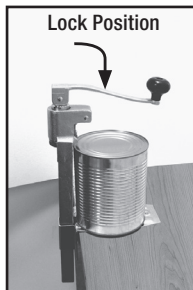
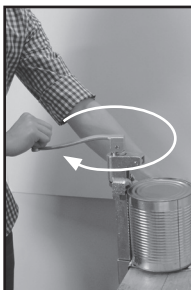

Figure 5
Figure 6
4. Lock the handle (Figure 5) and turn it clockwise. This will automatically turn the can around. Use your free hand to guide the can as it rotates. Continue turning the handle until the top of the can is removed. (Figure 6)